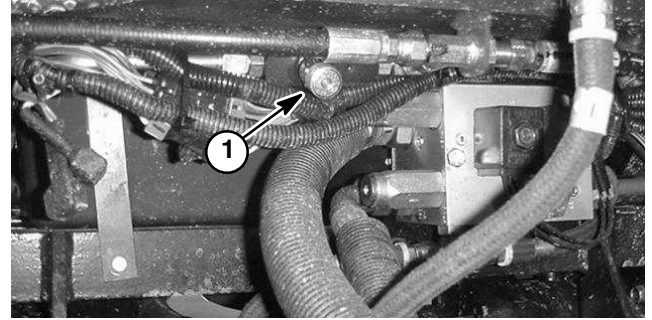

Figure 36
2. Locate flow control valve under front of machine (Fig. 36).